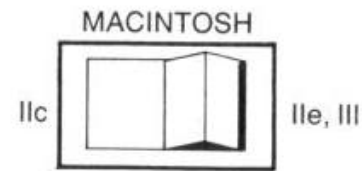

Figure 2-5. Rocker Switch Settings (Apple //c)
7. Set the rocker switches on the back of the QC hard disk so that both are in the //c position as in Figure 2-5.